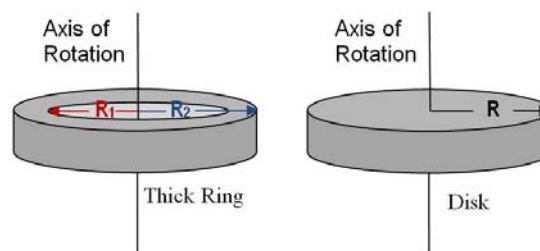

Figure 1: Conservation of Angular Momentum Figure 2: Rotational Axis for Ring and Disk
1. Use the large rod base and the 45 cm rod to support the Rotary Motion Sensor as shown in Figure 1. Plug the sensor into the interface.